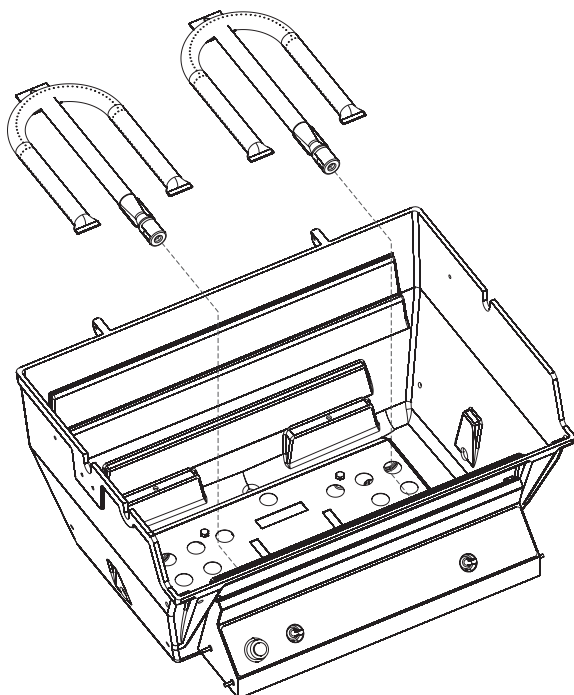

**Figure 1**
2. Place radiation shield (13) (flange side up) onto four raised bosses located on the interior bottom of the grill. Secure with four 1/4-20 x 3/4 screws. See Figure 1.